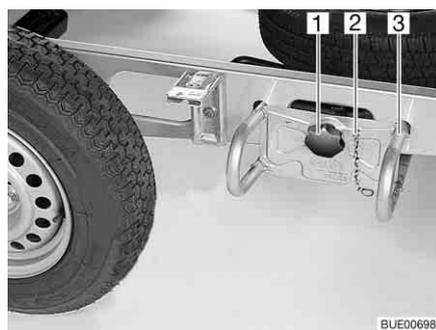

Fig. 228 Spare wheel support
- Unhook the safety chain (Fig. 228,2).
- Loosen and unscrew the star handle (Fig. 228,1).
- Pull out the spare wheel support (Fig. 228,3) about 10 cm and place it on the ground.